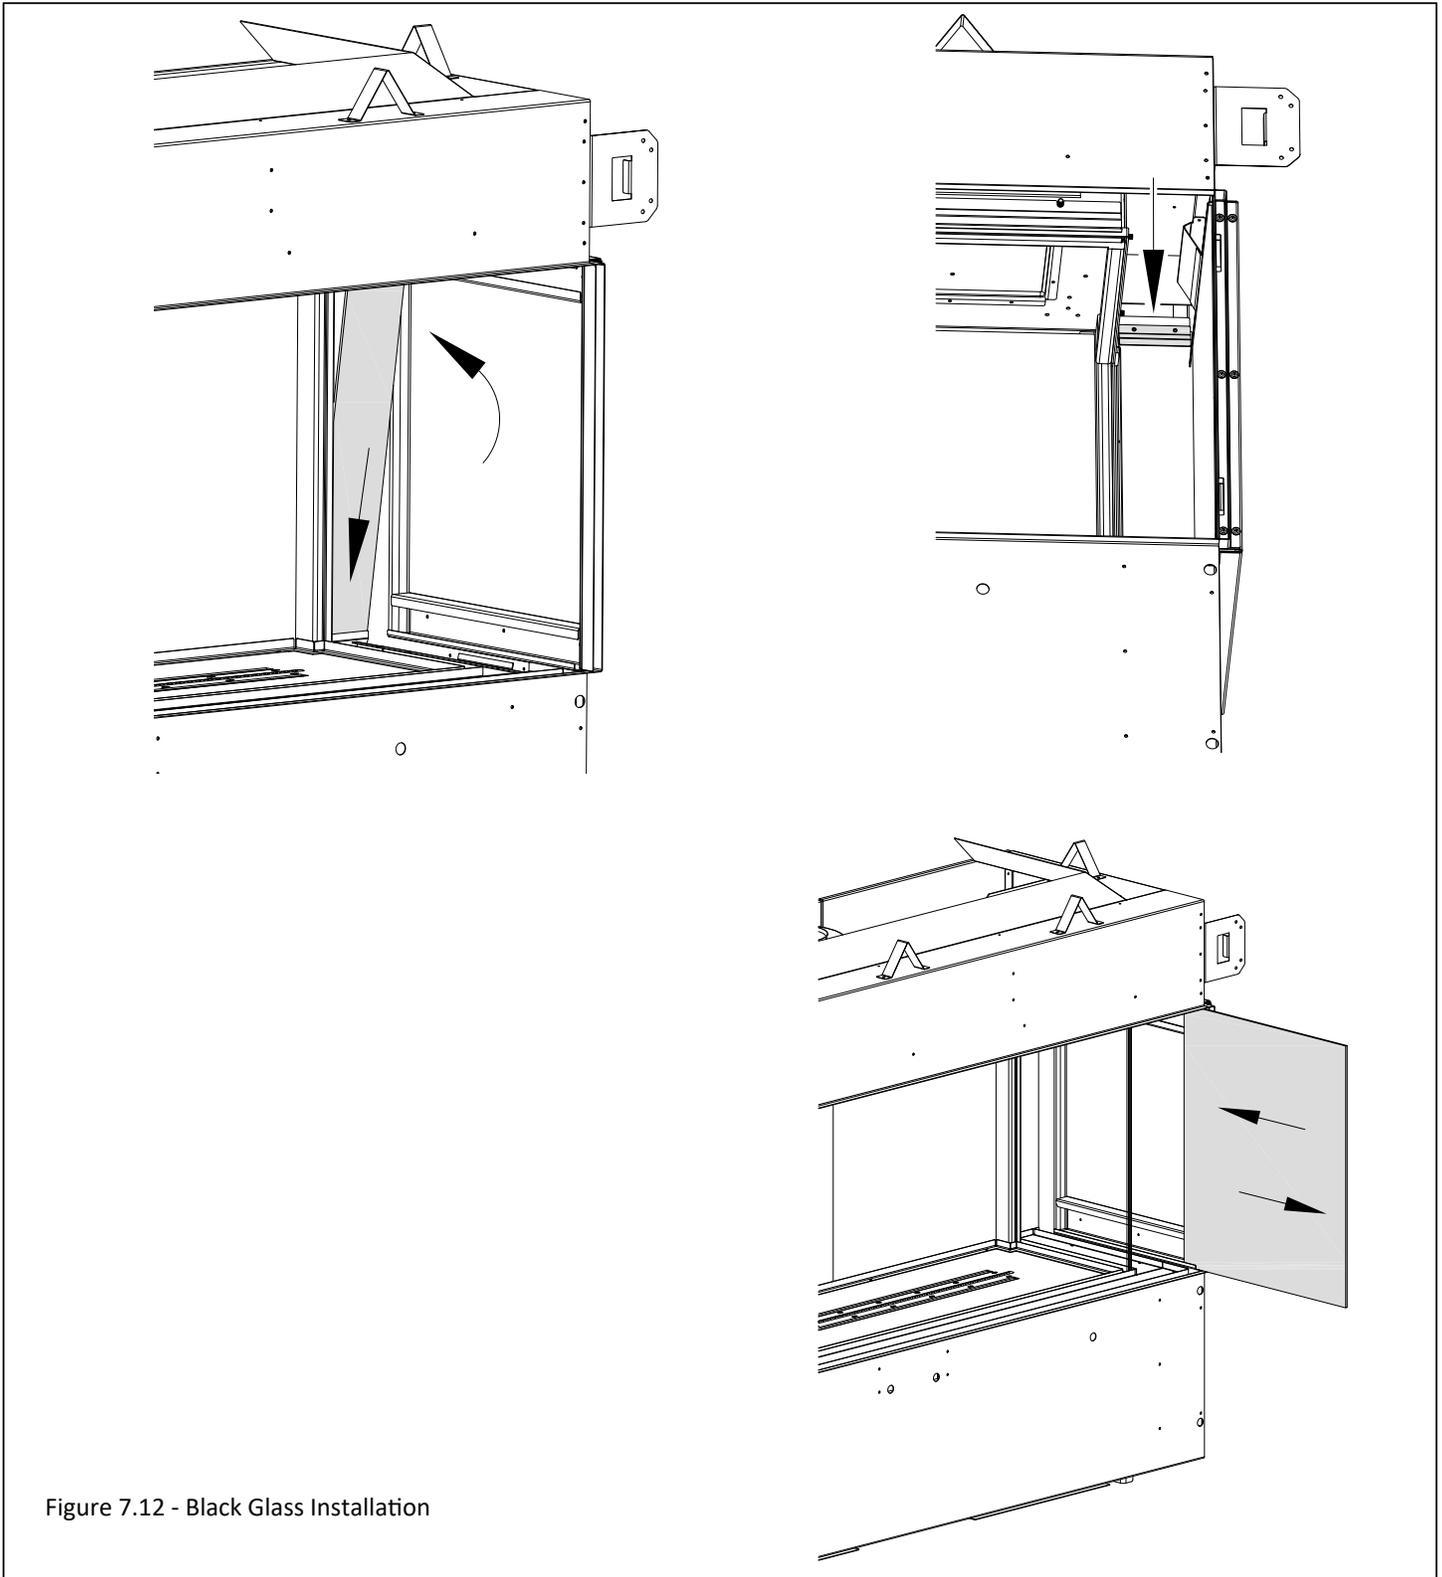

Figure 7.12 - Black Glass Installation
3. Install the (2) rear perimeter black glass panels by tilting them sideways until you get them to the back of the fireplace. Place the bottom edge of the glass down into the preinstalled bottom perimeter panel clip and tilt into place. Use the supplied perimeter panel clip and secure on the top of the glass with (2) sheet metal screws. See Figure 7.12.
4. Install the side black glass panels by sliding them into position as shown in Figure 7.12.